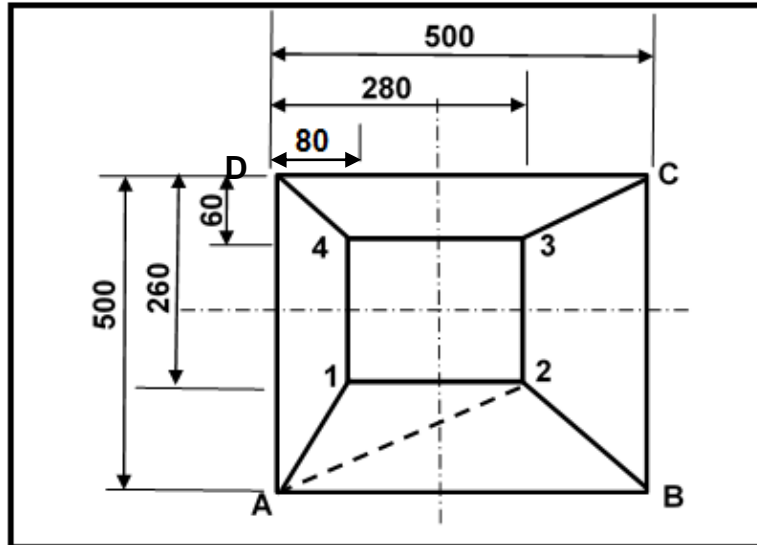

FIGURE 11.1
11.1 FIGURE 11.1 shows a square-to-square off-centre hopper with a vertical height of 400 mm. Answer the questions that follow.